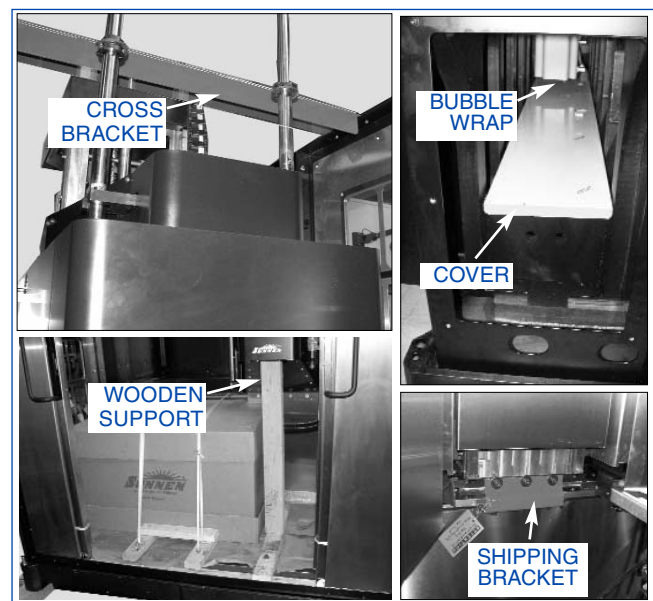

FIGURE 1-4, Shipping Brackets
9. ATTENTION - Remove steel Cross Bracket that supports machine during shipping (see Figure 1-4).
10. ATTENTION - Remove Wooden Support, added to Machine to restrict movement of Column during transit (refer Figure 1-4).
11. ATTENTION - Raise Column. Remove steel Shipping Bracket located behind carriage Linear Rails Cover and install stainless cover (refer Figure 1-4).
12. ATTENTION - Remove bubble wrap from under Stroker Motor on base of column and remove protective wrap from cover (refer Figure 1-4).